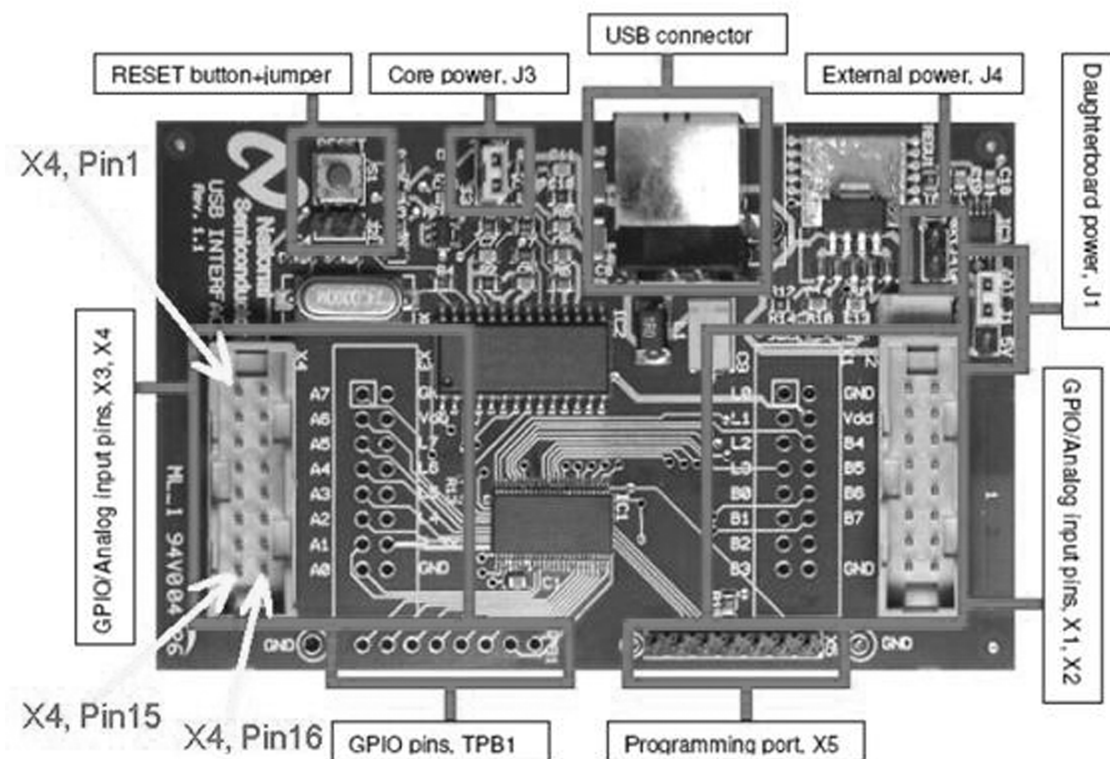

Figure 1. USB Interface Board
- USB Interface board (Figure 1) with 10 pin interconnect cable (to mate with J6 on LMH6518 evaluation board). This board interfaces to a PC USB port to “Write” the SPI interface signals to the LMH6518 and can also display the LMH6518 state through “Read” back.